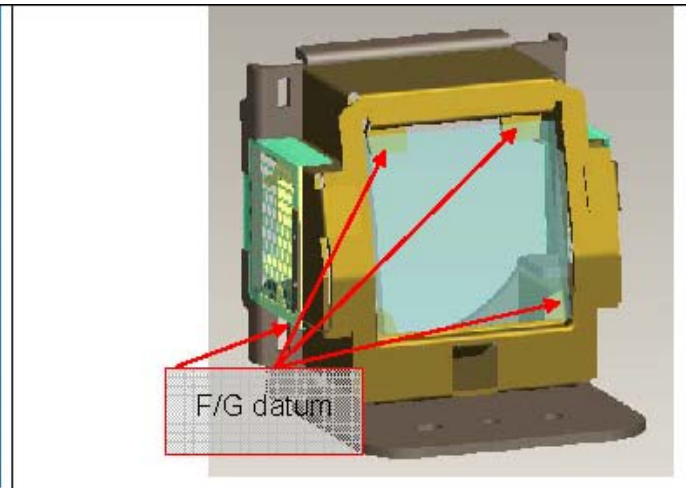

Figure 1-6
- ii. F/G must be placed on datum surfaces well. (Figure 1-6)